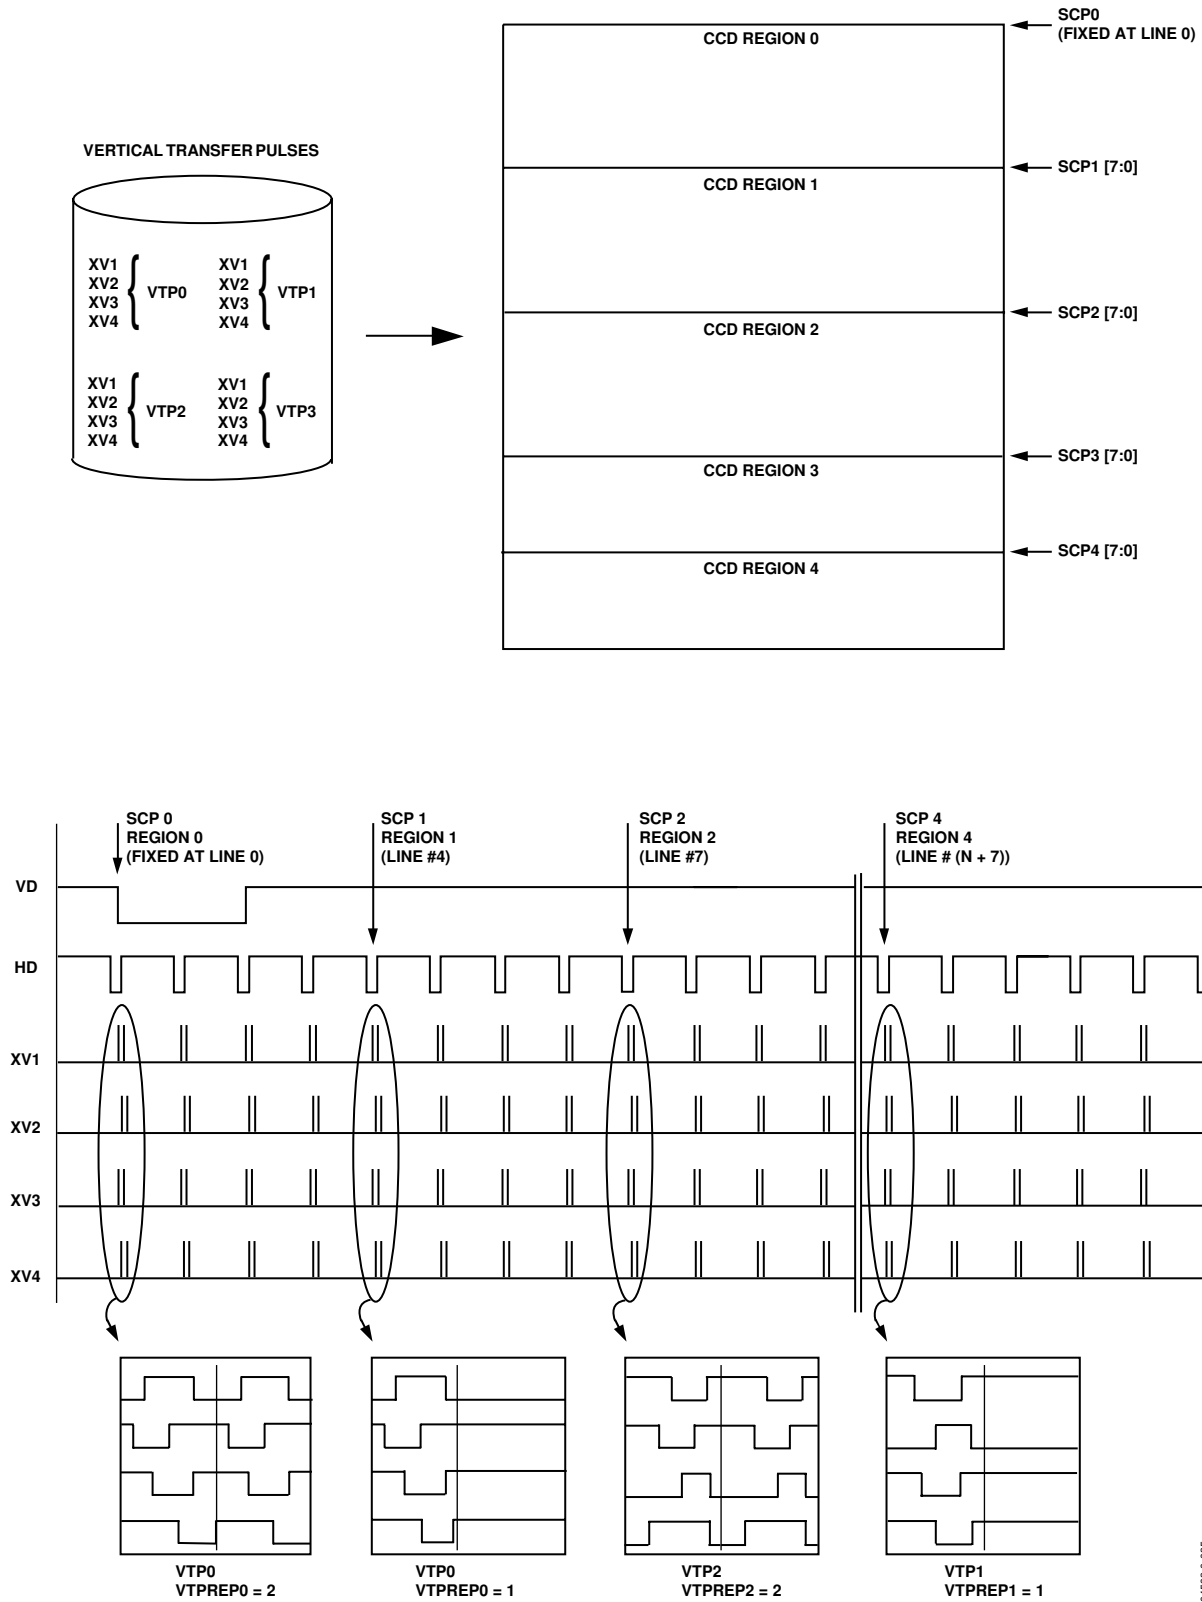
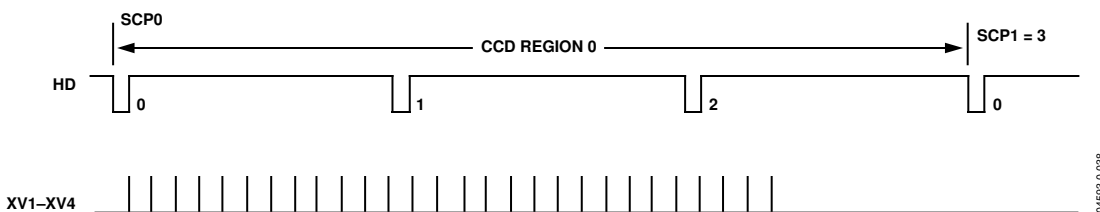
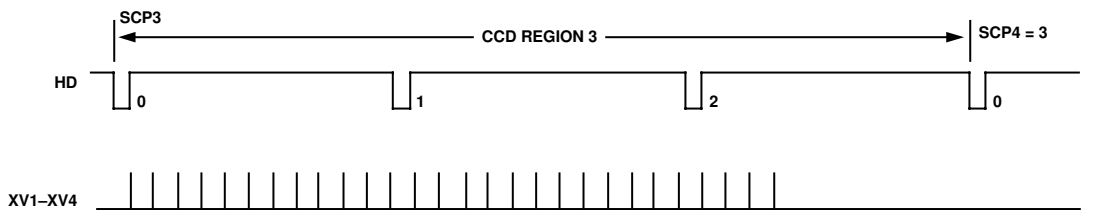

Figure 34. Steps 3 and 4: An Example of Building an Entire Field Readout by Assigning Sequences to Multiple CCD Regions
Figure 37. Sweep Mode Timing Example with SVREP\_MODE = 1 and SVREP0 = 28
Figure 38. Sweep Mode Timing Example with SVREP\_MODE = 2 and SVREP3 = 28
Figure 32 through Figure 34 provide an overview of how the vertical timing is generated in four basic steps.
**Step 3:** Output Vertical Sequences into CCD Regions (see Figure 34).
**Step 4:** Combining CCD Regions (see Figure 34).
The individual CCD regions are combined into a complete field readout by using sequence change position (SCPx) pointers as described in Table 23. Figure 34 shows how each field is divided into multiple regions. This allows the user to change vertical timing during various stages of the image readout. The boundaries of each region are defined by the sequence change position (SCP). Each SCP is a 8-bit value representing the line number boundary region. A total of four SCPs allow up to five different region areas in the field to be defined. The first SCP0 is always hard-coded to line 0, and the remaining four SCPs are register programmable.
The special vertical sweep mode operation is only output in CCD Region 0 and CCD Region 3 (see Figure 34), as shown in Figure 37 and Figure 38. The SVREP\_MODE register located at